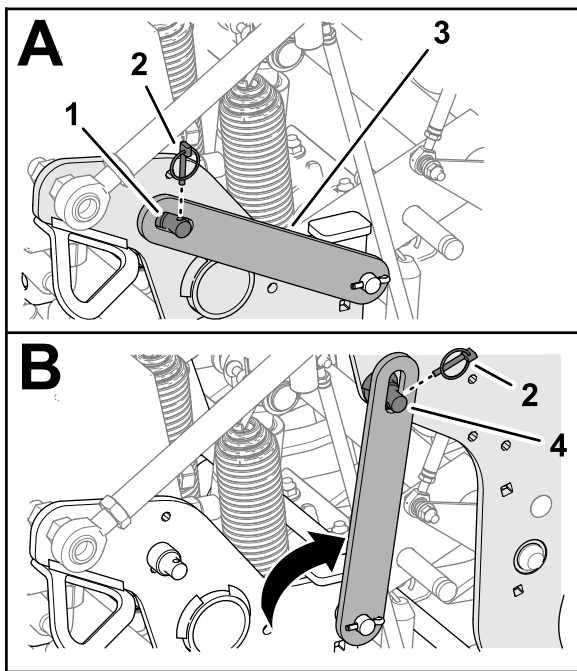

**Figure 102**
4. Remove the lynch pin securing the service latch to the side plate (Figure 102).